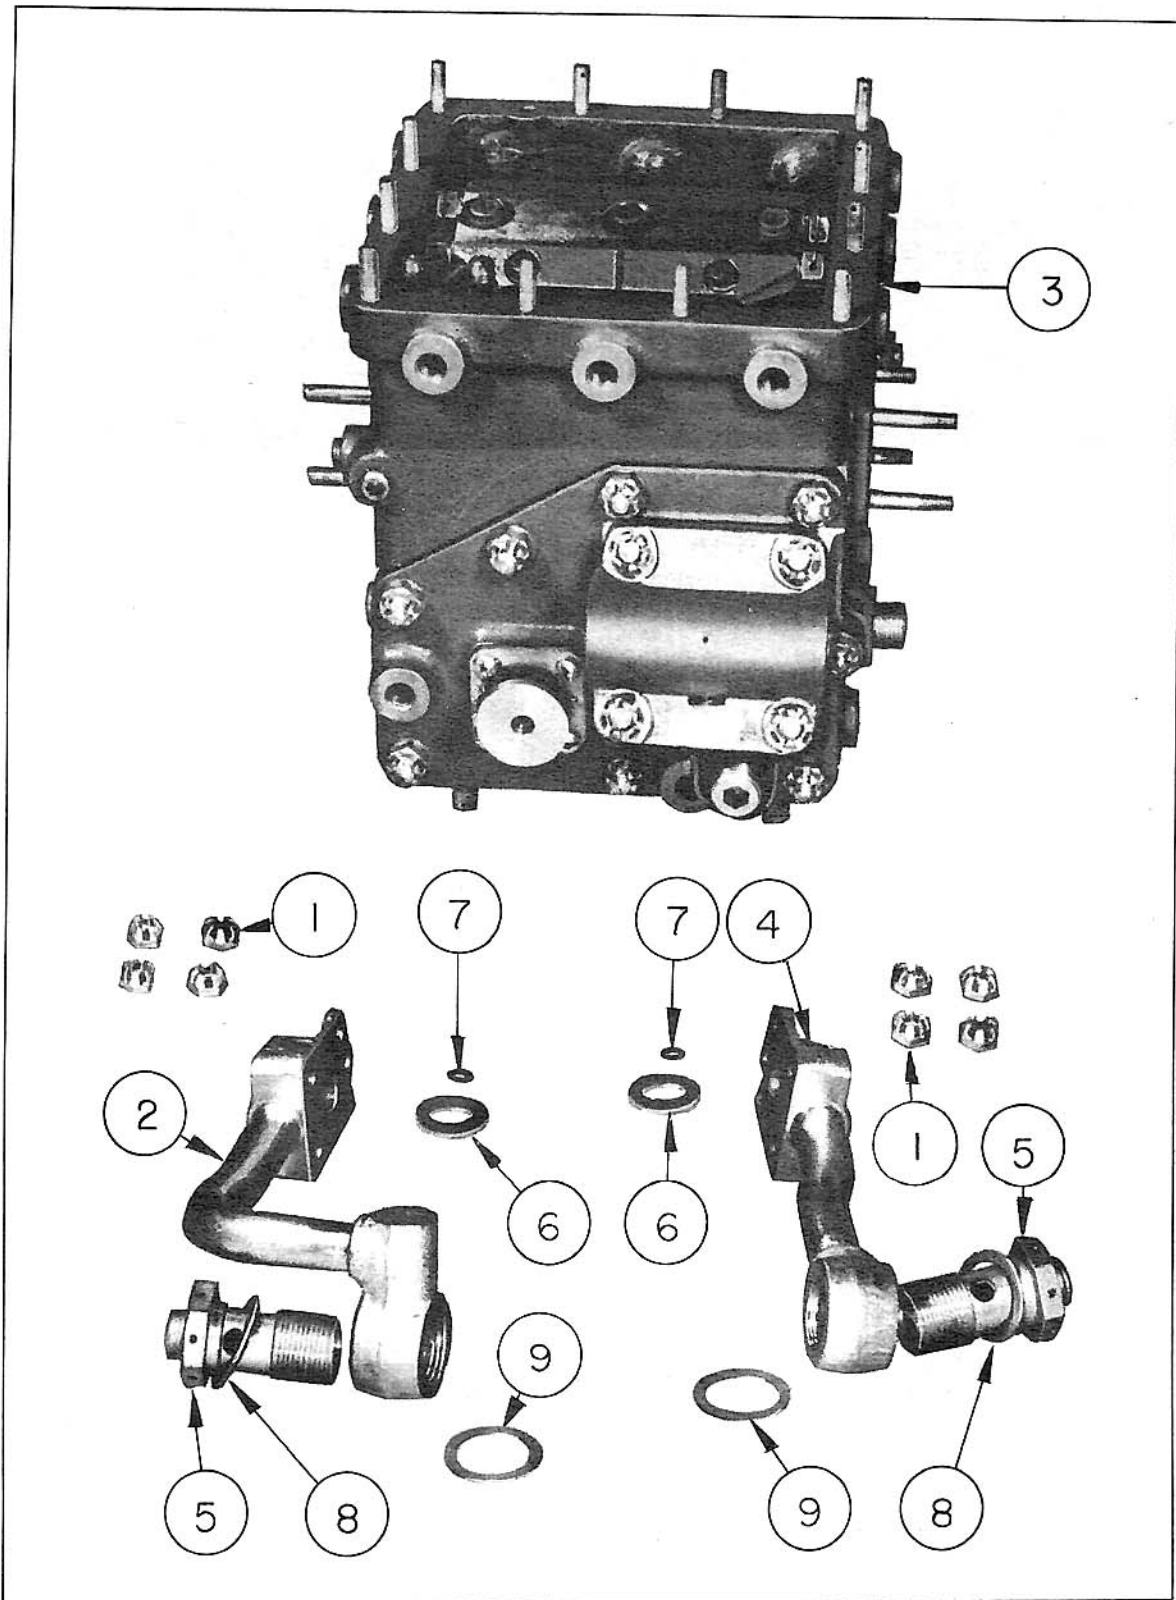

FIGURE 22
2. Upper and Lower Pressure Line (Fig. 22)
3. Upper and Lower Pressure Lines (See Figure 22.) - a. Remove the 4 nuts (1) which hold the flange of the upper line (2) to the housing (3). Remove the 4 nuts (1) which hold the flange of the lower line (4) to the housing. Loosen the swivel bolts (5) at the ends of the lines where they connect into the "B" end valve plate.
11. Upper and Lower Pressure Lines (Fig. 22)
12. Upper and Lower Pressure Lines (See Figure 22.) - a. Put the 2 Neoprene gaskets (6) into position over the pintles, and the two Neoprene gaskets (7) over the check valve openings. Lay each pressure pipe into place to check for fit into the "B" end valve plate, fastening them loosely with the two swivel bolts (5) . It is extremely important that the lines be properly lined up at each end. Great care should be used not to force them into position for this may result in distortion which will cause faulty operation. When the lines are properly lined up, fasten down the 4 nuts (1) at the other ends of the lines. Place a gasket (8) on each swivel bolt (5) and after inserting gasket (9) between the line and the "B" end valve plate, tighten the bolt. Make sure that the bolt goes in freely without binding. Where the line pulls up too far, a thicker gasket must be used instead of (9) . Finally, safety wire the 4 nuts (1) at each end of the lines with lockwire. Since these pipes carry the high pressure oil (1250 lbs/sq. in. approx.), it is extremely important that they be properly aligned and securely fastened.